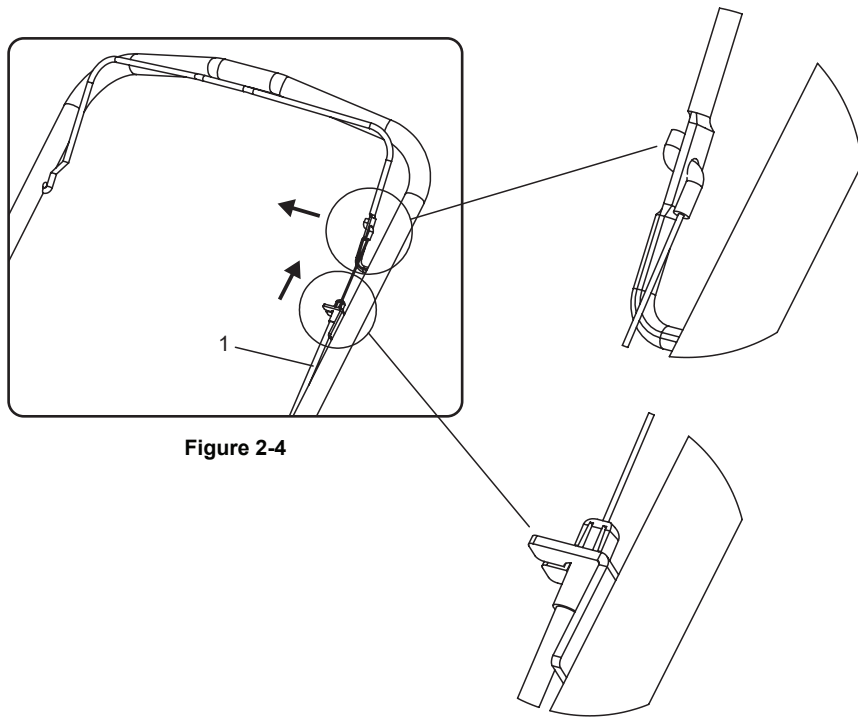

Figure 2-4
If the clutch line (1) falls off when you received the item, you should pass it through the fixing hole of the clutch line. Insert the clutch head into the throttle handle fixing hole from the outside to the inside. (see Figure 2-4)